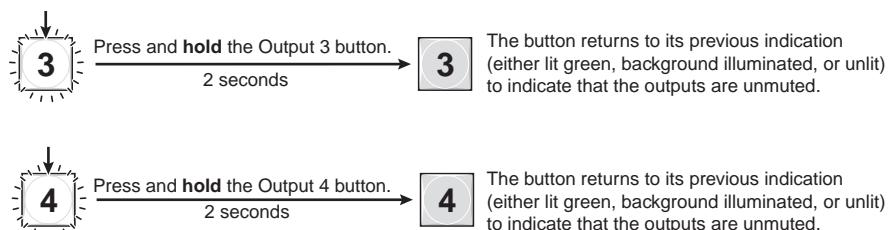

Figure 3-54 — Unmute the outputs
5. One at a time, press and hold the Output 3 and then the Output 4 buttons (figure 3-54) for approximately 2 seconds until the buttons lights steadily. The output 3 and output 4 video and audio signals are unmuted.